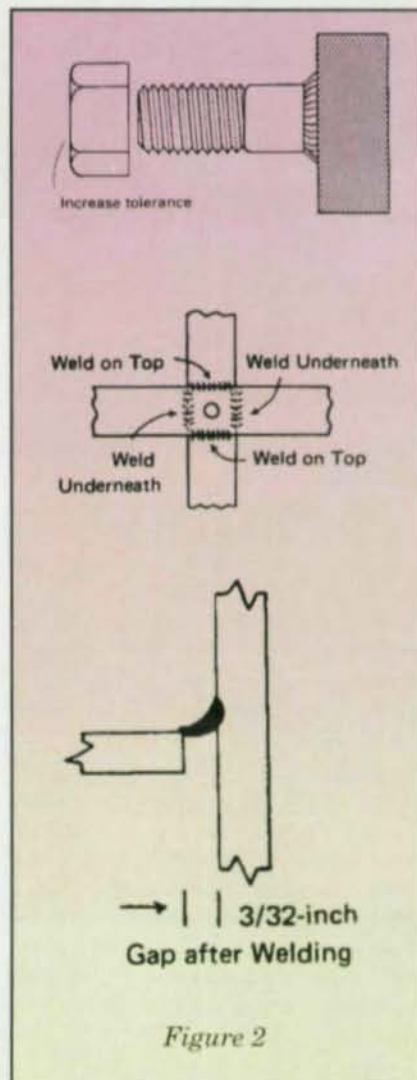

Figure 2
1. For overlapping or contacting surfaces: (See Fig. 2)